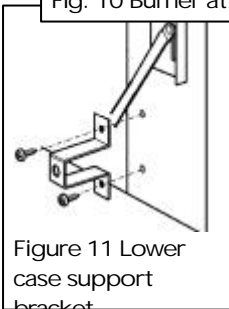

Figure 11 Lower case support bracket
6.3 Fit the two lower case support brackets to the convection box side flanges. See figure 11.